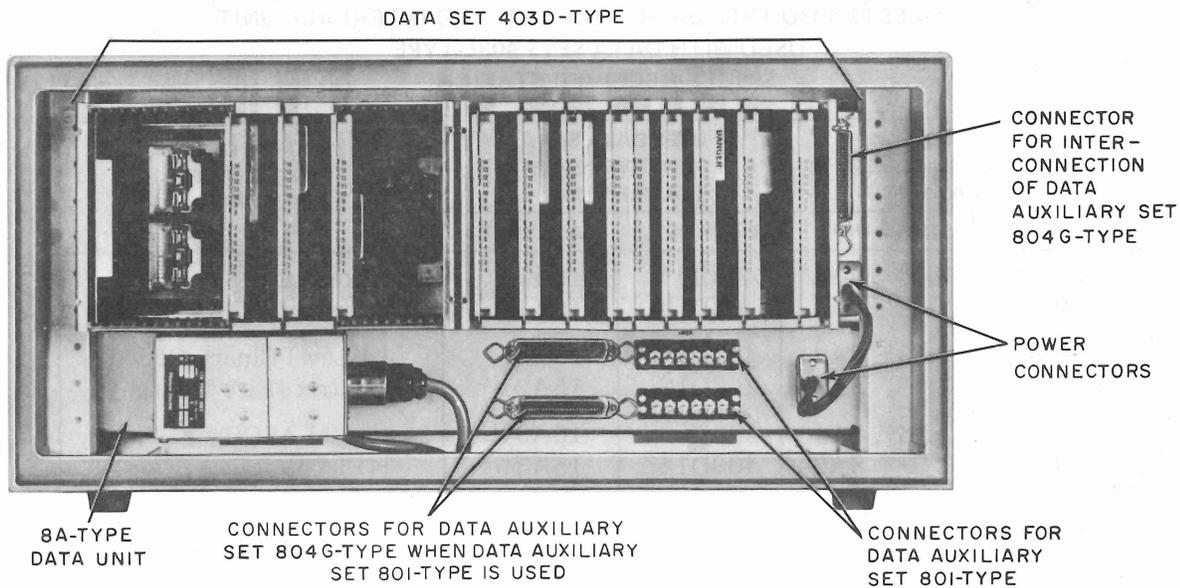

Fig. 3—Data Set 403E-Type Showing Connectors for Data Auxiliary Sets 804G-Type and 801-Type
**2.06** The 8A-type data unit contains a power supply and two 50-pin connectors for connection to the associated DS 403D-type (Fig. 3). It also contains two terminal boards for connections to an ACU, and a 9-pin connector for distribution of power to the associated data set. For more detailed information on the 8A-type data unit, refer to the section entitled 8A-type Data Unit—Identification (590-100-110).